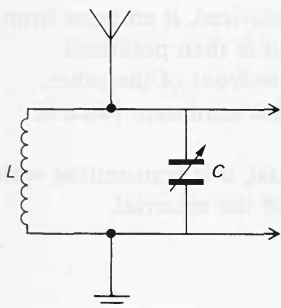

Figure J142
- The aerial currents produce alternating currents in the tuning circuit of the receiver (figure J142). Why can turning the knob which varies C tune in a particular signal?